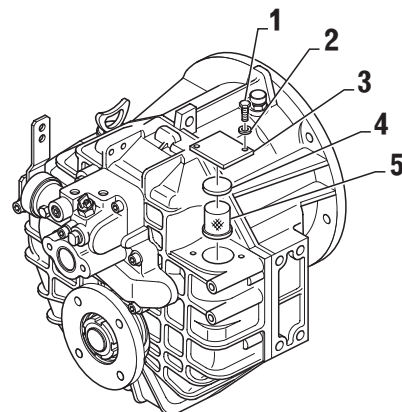

FIG. 1-1b
Unscrew two M8x25 bolts (item 1, fig. 1-1b) and remove them together with washers (2).
Pull cover, seal and filter element off (item 3, 4 and 5 fig. 1-1b).